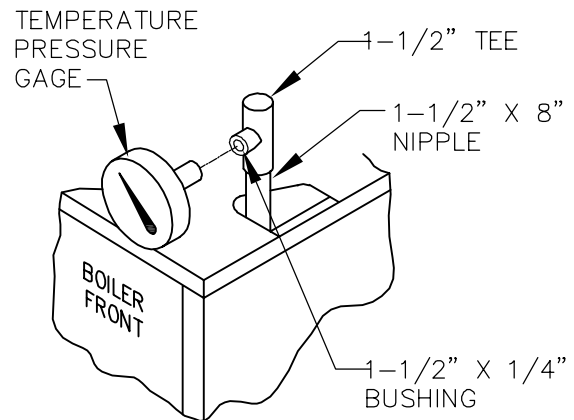

Figure 3.1: Temperature-Pressure Gage Installation
2. **Install temperature-pressure gage** with tee in supply tapping. Nipple, tee, bushing and gage are located in trim carton. See Figure 3.1.